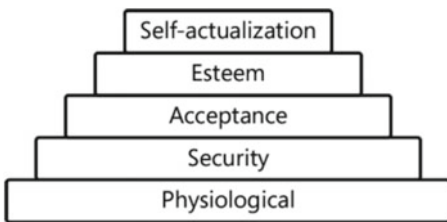

Figure 7-8. *Maslow's hierarchy of needs*
- *Maslow's hierarchy of needs* describes a situation whereby people perform at their best when they have the opportunity to be what Maslow refers to as *self-actualized*. This is the top of the needs pyramid he describes. However, people want to fulfill the bottom needs first and cannot fulfill higher needs until lower ones are fulfilled, and the current need always takes precedence. So if people are concerned about their physiological well-being—for instance, if they can't afford groceries—then they will not be able to gain acceptance and esteem. Figure 7-8 shows the levels in Maslow's hierarchy of needs.